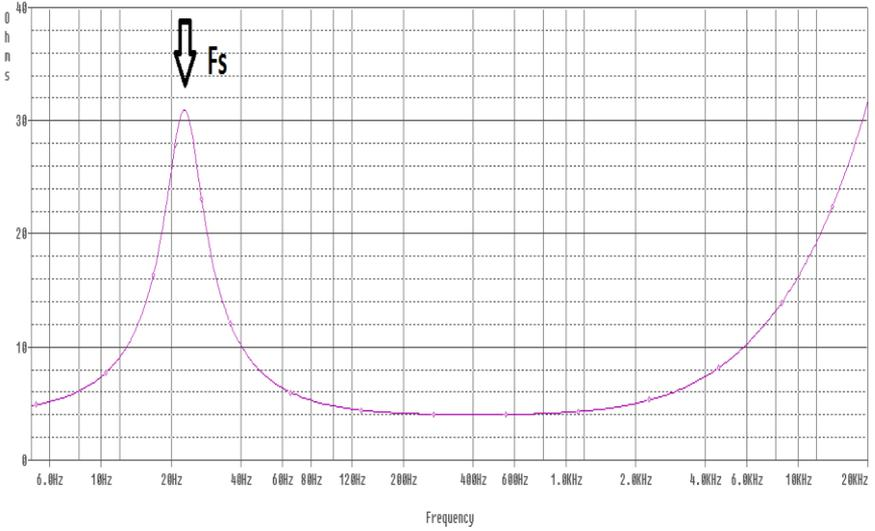

Figure 1, Impedance curve of a single 4 ohm voice coil, 15 inch subwoofer. Notice the f_s at 24 Hz.
4. After the unit is operating, adjust the frequency to the low end of the f_s range in the chart below. Then slowly raise the frequency until the peak in impedance is found. If you go too far and pass the peak, just back down the frequency until the peak in impedance is found. Figure 1 shows the impedance curve for a 15 inch woofer we tested. We measured the f_s to be 24Hz.